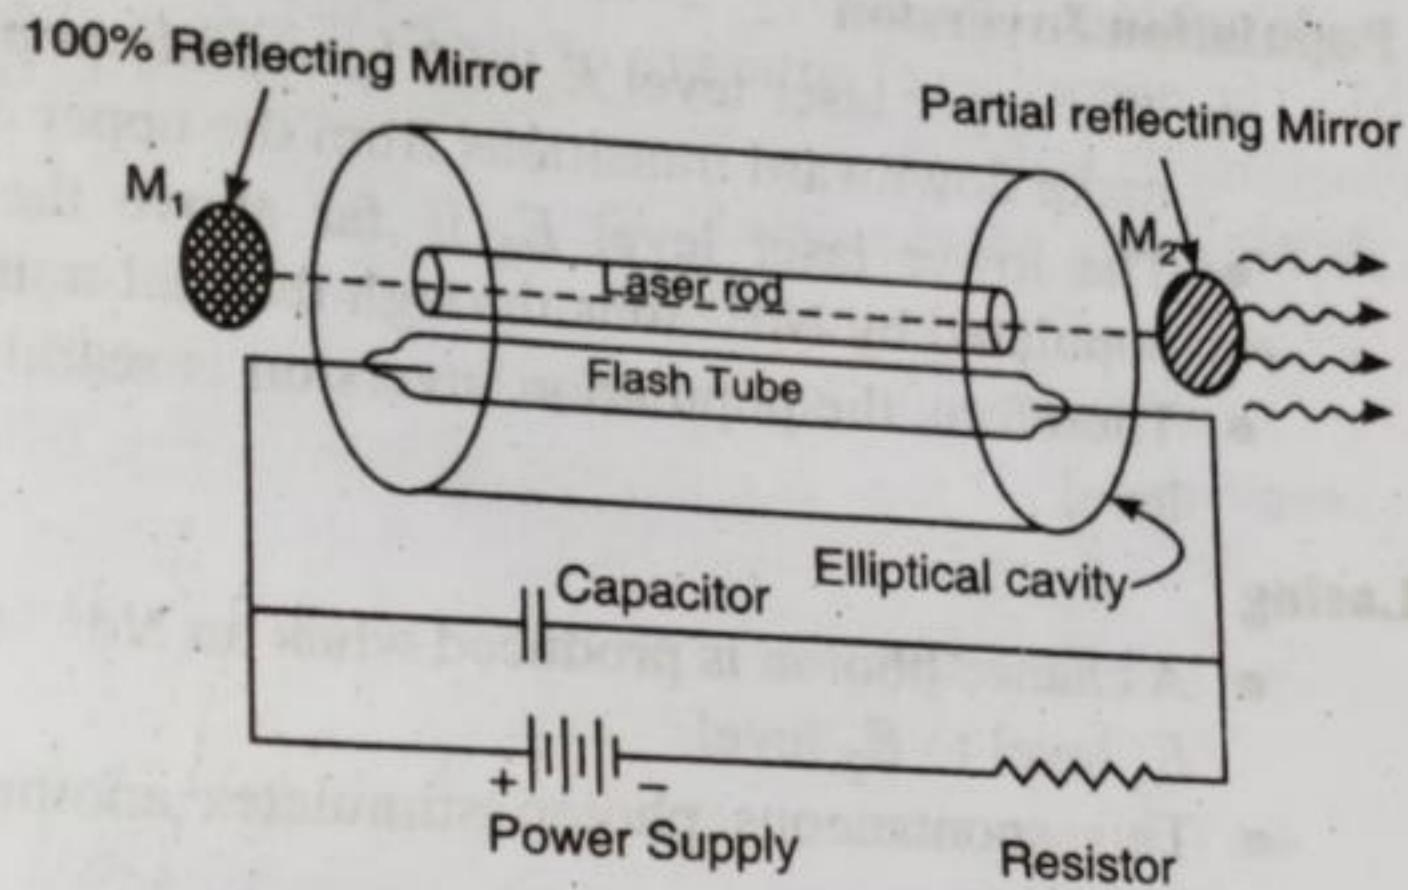

Fig. 24.17. Schematic of a Nd:YAG Laser
**Construction:** Fig. 24.17 illustrates a typical design of Nd: YAG laser. The system consists of an elliptically cylindrical reflector housing the laser rod along one of its focus line and a flash lamp along the other focus line. The light leaving one focus of the ellipse will pass through the other focus after reflection from the silvered surface of the reflector. Thus the entire flash lamp radiation gets focused on the laser rod. The YAG crystal rods are typically of 10 cm in length and 12 mm in diameter. The two ends of the laser rod are polished and silvered and constitute the optical resonator.